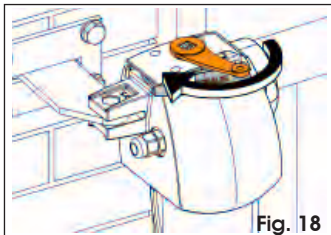

Fig. 18
3. Turn the key in the direction of the arrow (Fig.18) – the release lever opens slightly to facilitate meshing.